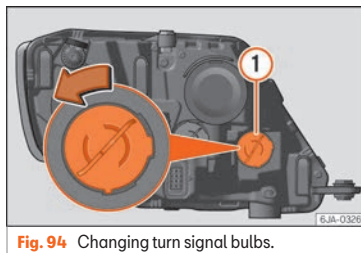

Fig. 94 Changing turn signal bulbs.
- Turn the bulb holder » **Fig. 94 ①** anti-clockwise and remove it.